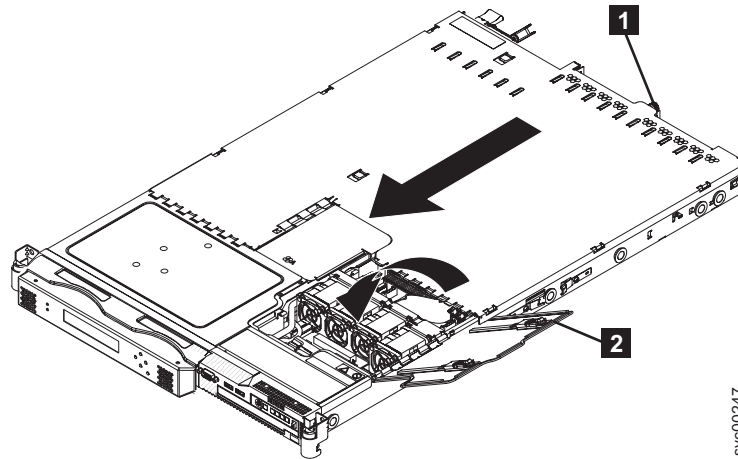

Figure 74. SAN Volume Controller 2145-8G4 with the fan door open
3. Tighten the thumbscrew **1**, which is shown in Figure 74 on page 89, until the cover correctly engages all the inset tabs on the SAN Volume Controller 2145-8G4.